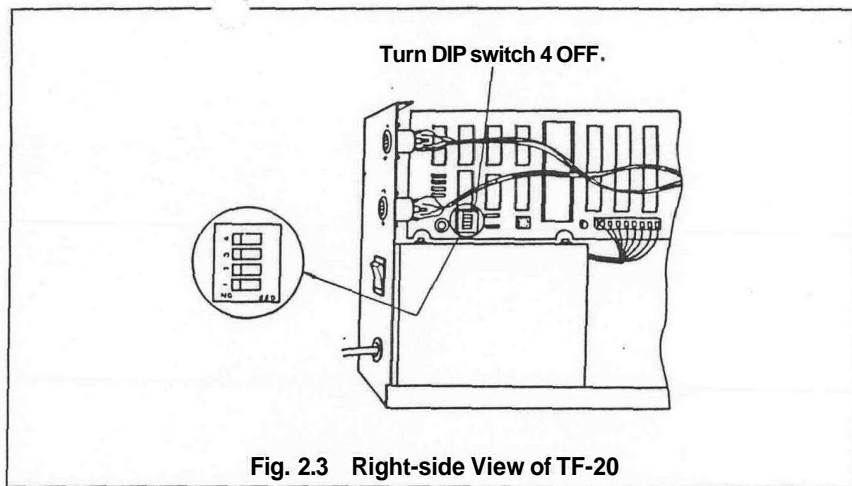

Fig. 2.3 Right-side View of TF-20
- (1) Loosen the four screws located on the lower edge of the cover of the second TF-20. Change the setting of DIP switch 4 to OFF. DIP switch 4 is located on the rear, lefthand side of the PC board (in front of the 5-pin interface connector). The location of DIP switch 4 is shown in the Fig. 2.3.